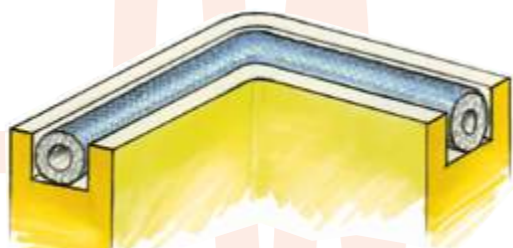

Figure 41 : Groove construction with conductive o-ring gasket
- 41 Very small construction:** (smaller than 150 x 150) grooves, casted, molded or machined: conductive profiles, o-ring or cut gasket out of highly conductive rubber are suitable. (Fig. 41)